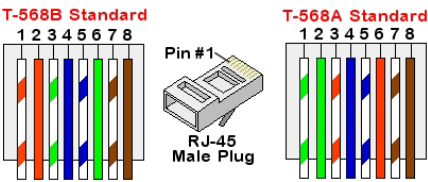

Figure 15: Standard cable wiring
- c. Insert the eight wires into an RJ45 connector, as described in *Figure 15*.
7. For the switch/router side, use a pre-crimped cable or use a crimper to prepare an RJ45 communication connector: Insert the eight wires into the RJ45 connector in the same order as above (*Figure 15*).